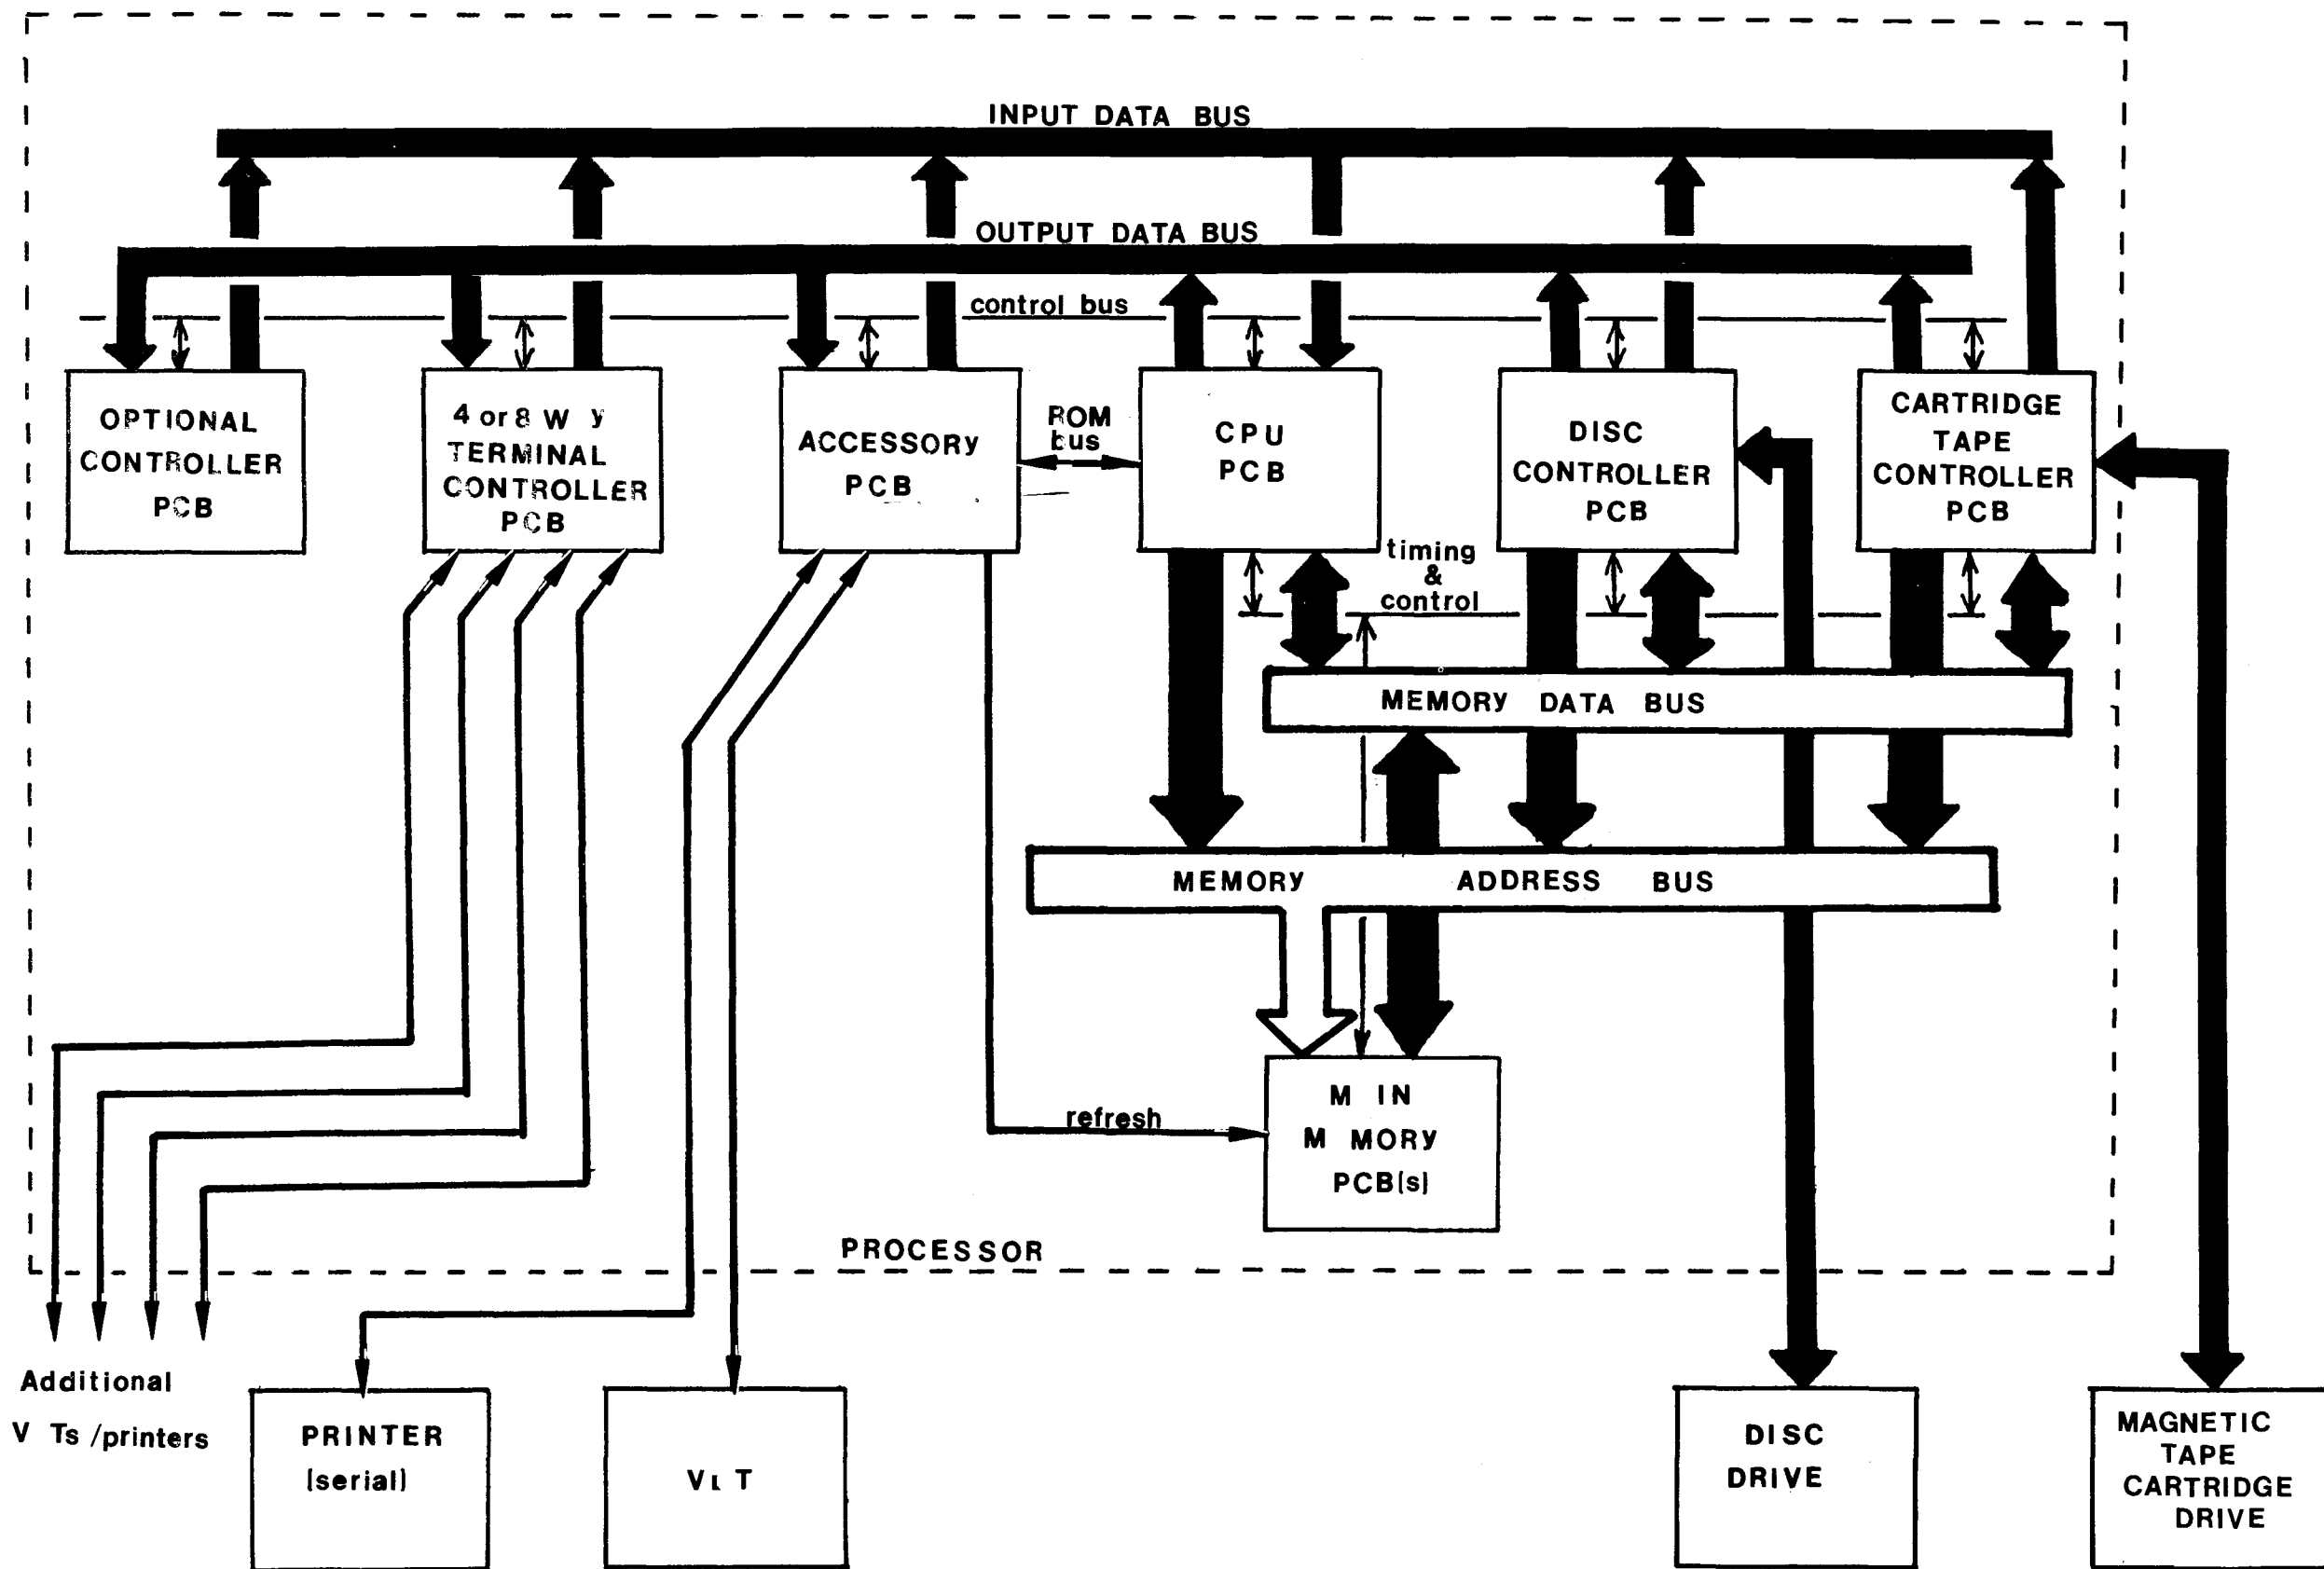

Figure 3-2. Processor Functional Block Diagram
Within the dotted lines of Figure 3-2 is an illustrated functional block diagram of the Processor. The Processor consists of the following devices:
Communication between the CPU and the rest of the Processor devices is accomplished by various busses as shown in Figure 3-2. Each bus handles information of a particular type.
For reference purposes, Figure 3-2 also shows how each peripheral device is tied to its associated Controller. The respective Service Manual describes its relationship (Printer, VDT, Disc Drive, and Magnetic Tape Cartridge Drive) to the controller.
The Central Processing Unit (CPU), as shown in Figure 3-2, initiates, controls, and terminates all actions within the computer system, as well as performing arithmetic calculations and logical functions. The CPU controls the movement and modification of data throughout the system as specified by the program present in Main Memory.
Main Memory functions as the storage medium for programs and data currently being executed upon by the CPU (see Figure 3-2). Main Memory may be organized up to 96k words or nine (9) bits in length. Eight (8) bits of each word represents data and the remaining bit is the parity bit for the word (an LED on the memory PCB illuminates when a parity error has occurred). Because the Main Memory is a dynamic semiconductor type, each cell (1 bit/cell) must be refreshed every two milliseconds, otherwise, the charge held in the cell will leak off. Figure 3-3 shows the required timing relationships to perform a memory refresh cycle. Refresh timing and control is supplied to Main Memory by circuitry located on the Accessory PCB.
Main Memory is connected to the CPU, Disc Controller, and MTCB Controller by a memory data bus, two (2) memory address busses, and timing and control signals (see Figure 3-2). It is on these busses that the information is transferred to/from Main Memory to the rest of the system in a DMA.
The Disc Drive Controller (see Figure 3-2) provides the interface required to pass information between the CPU and the Disc Drive. The Disc Drive Controller provides the following functions.
The Magnetic Tape Cartridge Controller provides the interface required to pass information between the CPU and the Magnetic Tape Cartridge Drive (MTCDD) (see Figure 3-2). The MTCDD provides the following functions.
The Accessory PCB is connected to the I/O Channel to allow data communication between the CPU and the VDT(s) and/or serial Printer (see Figure 3-2). The Accessory PCB and CPU are connected together by a short 50 wire ribbon cable. It is through this cable that the CPU gains access to the micro-instruction control ROM located on the Accessory PCB.
A bus, for the purposes of this discussion, is a set of wires used as a path over which information is transmitted from any of several sources to any of several destinations. Each bus is shared by several devices, with the CPU as one end point (see Figure 3-2). The following paragraphs describe the function and basic operation of the CPU busses.
The Input/Output (I/O) Channel consists of three (3) physically independent busses that work in conjunction with one another to provide data communications between the CPU and the peripheral Controllers (see Figure 3-2). The Output Data Bus (OD00-OD07) is an 8-bit uni-directional, and, as its name implies, carries information sent from the CPU to the peripheral Controllers. The Input Data Bus (ID00-ID07) is also 8-bit uni-directional, and, carries information sent from the peripheral Controllers to the CPU. The control bus (IO1X-, IO2X-, IO3X-) is a 3-bit uni-directional bus that carries information sent from the CPU (I/O control register) to all peripheral Controllers. The bit pattern that appears on the control bus specifies, to the selected peripheral Controller, what action is to be taken on the Input and Output Data busses (refer to Table 3-2).